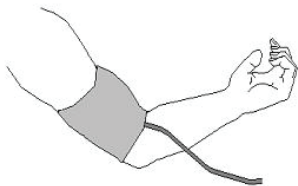

Figure 2.5 Cuff position
2. Applying the cuff: unfold the cuff and wrap it around the upper arm evenly to the appropriate tightness. The correct cuff position is shown in figure 2.5